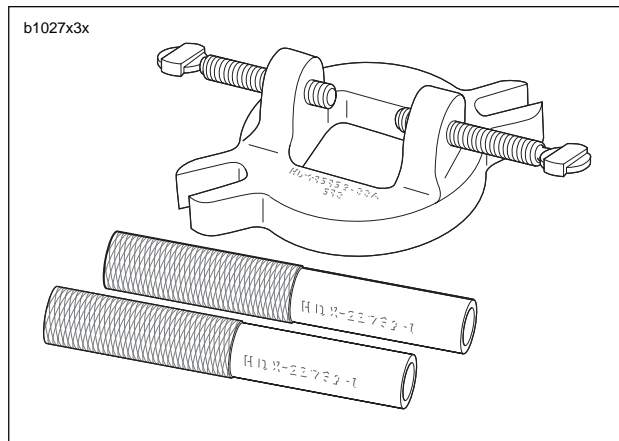

Figure 3-102. Connecting Rod Clamping Tool (Part No. HD-95952-33B)
1. See Figure 3-102. Secure connecting rod with CONNECTING ROD CLAMPING TOOL (Part No. HD-95952-33B).